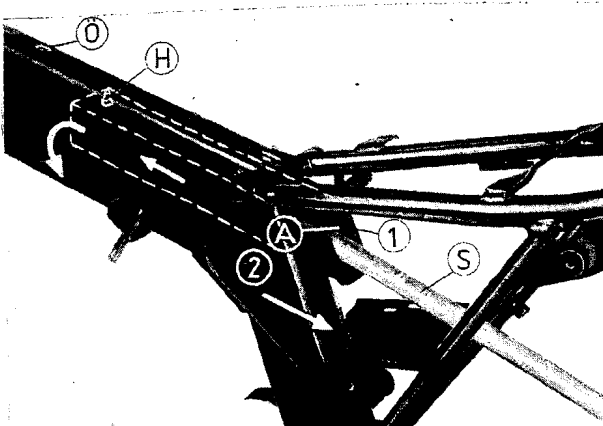

Fig. 188. Induction pipe mounting
The air is drawn in through the opening (A) of the induction pipe (1), see Fig. 188. The induction pipe serves for silencing and stilling of the air.
The intake silencer consists of two light metal castings which are screwed together so that they cannot be detached. In this casing, the air filter casing (L) is fastened. The silencer compartment (1) serves for the observance of the specified sound level of the induction noise and also as reservoir for the air required by the engine for combustion. The intake silencer is connected with the frame by means of three screws. The intake hose (1), which also serves for silencing, see Fig. 188, is fastened to the rear of the frame member directly in the cut of the plate by means of a groove in the rubber. A lug at the front end of the hose (H) keeps the latter in the opening (O) of the frame member.